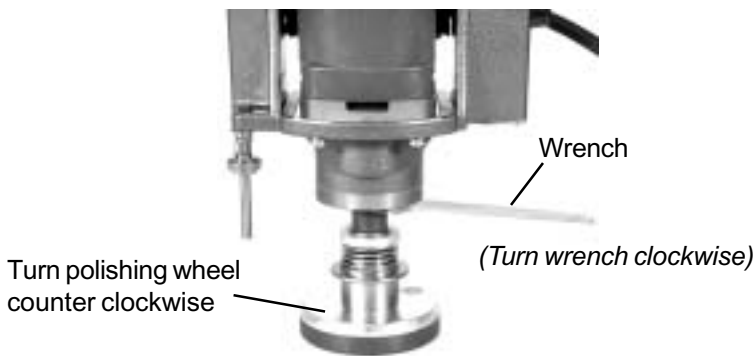

Figure 24
1. Put the included wrench on the base of the spindle. With a wheel attached to the one-touch ball stopper section, push hard on the wrench in a clockwise direction as seen from the end of the shaft attachment. (See figure 24 & 25)